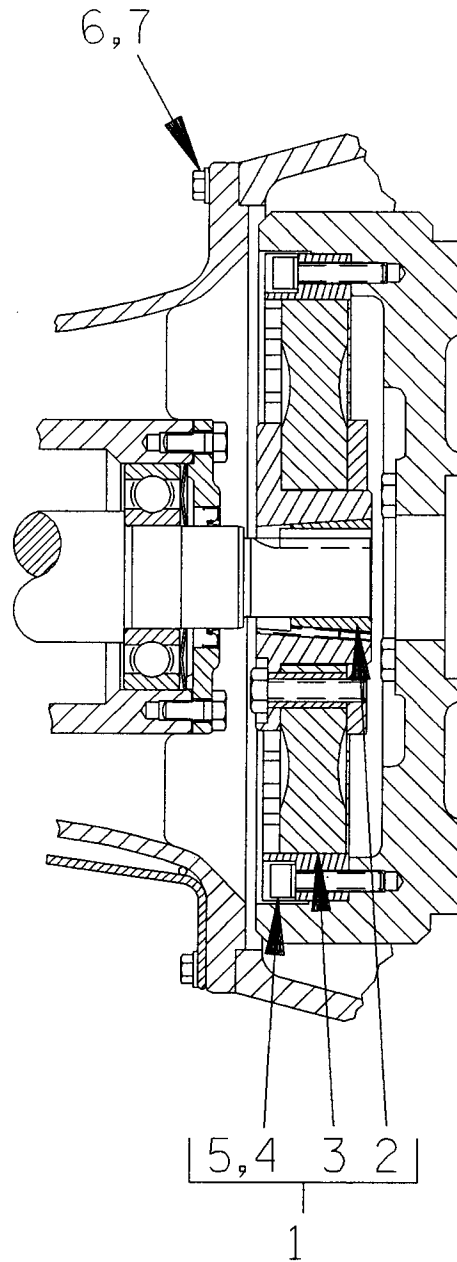

Figure 3. Drive Assembly For Pump End 86A2--(SAE 3/10)
(Figure 3)
Install the shaft key (25, Figure 2) in the shaft keyway. Position the flexible portion of the coupling assembly (3) on the shaft as shown in Figure 3.